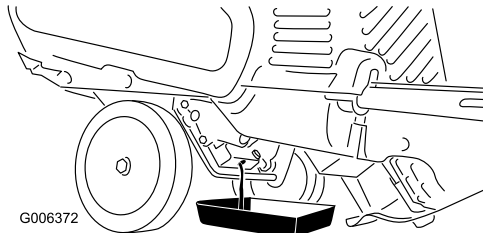

Figure 29
3. Place an oil-drain pan under the oil-drain plug, remove the plug, and tip the machine backward and drain the used oil in the pan (Figure 29).